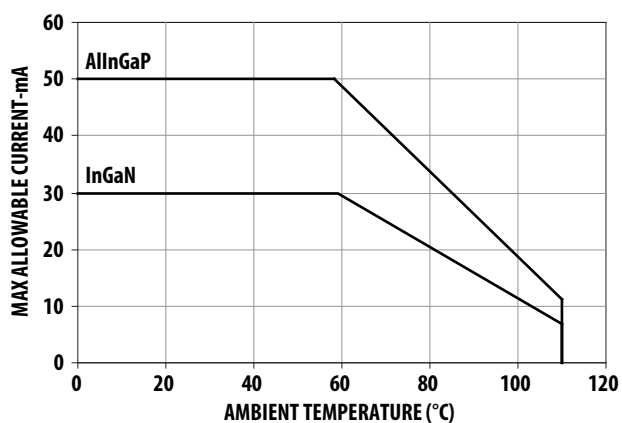
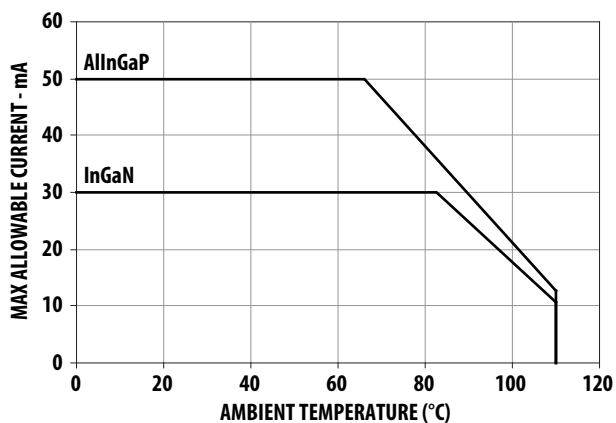

Figure 4a. Maximum forward current vs. ambient temperature. Derated based on $T_{JMAX} = 125^{\circ}\text{C}$. (3 chips)
Figure 4b. Maximum forward current vs. ambient temperature. Derated based on $T_{JMAX} = 125^{\circ}\text{C}$. (single chip)
1. Derate linearly as shown in Figure 4a & 4b.
4. Refer to Figure 4a and figure 4b for more information